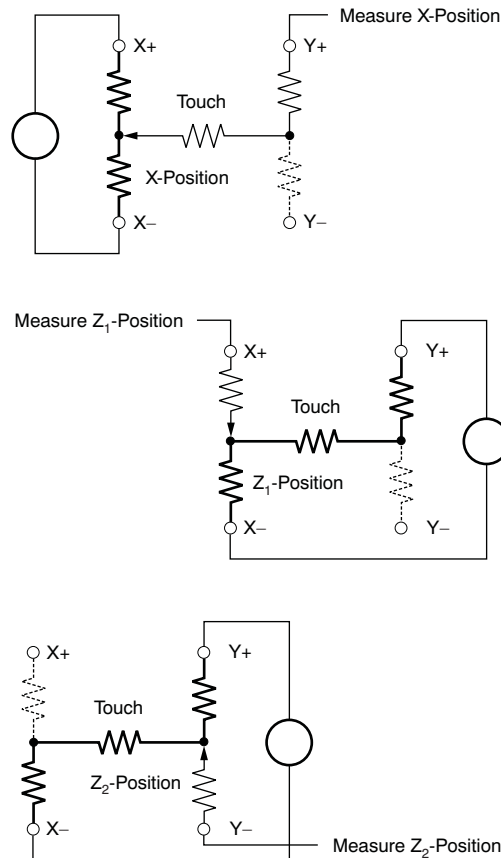

Figure 21. Pressure Measurement
Measuring touch pressure (Z) can also be done with the TSC2007. To determine pen or finger touch, the pressure of the *touch* must be determined. Generally, it is not necessary to have very high performance for this test; therefore, 8-bit resolution mode may be sufficient (however, data sheet calculations are shown using the 12-bit resolution mode). There are several different ways of performing this measurement. The TSC2007 supports two methods. The first method requires knowing the X-plate resistance, the measurement of the X-position, and two additional cross panel measurements (Z_2 and Z_1) of the touch screen (see Figure 21). Equation 1 calculates the touch resistance: